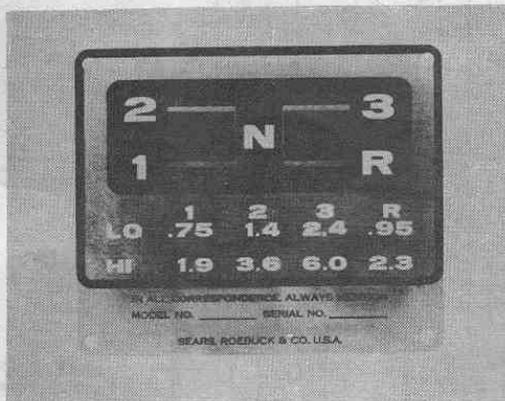

FIG. 7
4. Transmission gear shift lever must be in neutral. Neutral is when gear shift lever is free to move forward and backwards. It will operate similar to an automobile. See Figure 7.